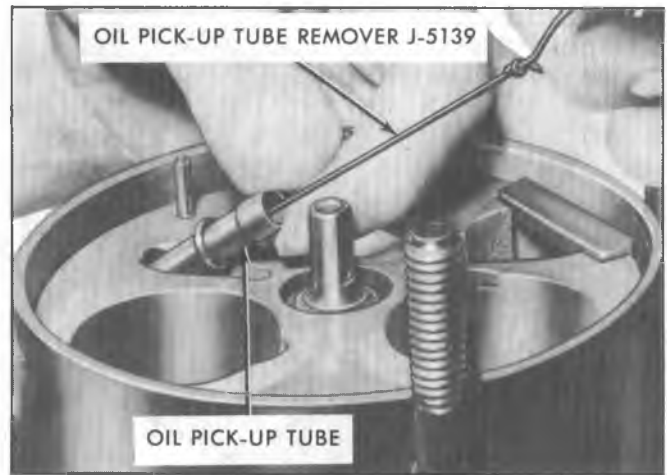

Fig. 28--Removing Oil Pick-Up Tube
13. Using Oil Pick-Up Tube Remover J-5139 (Fig. 28), remove oil pick-up tube. Remove O-ring from oil inlet.